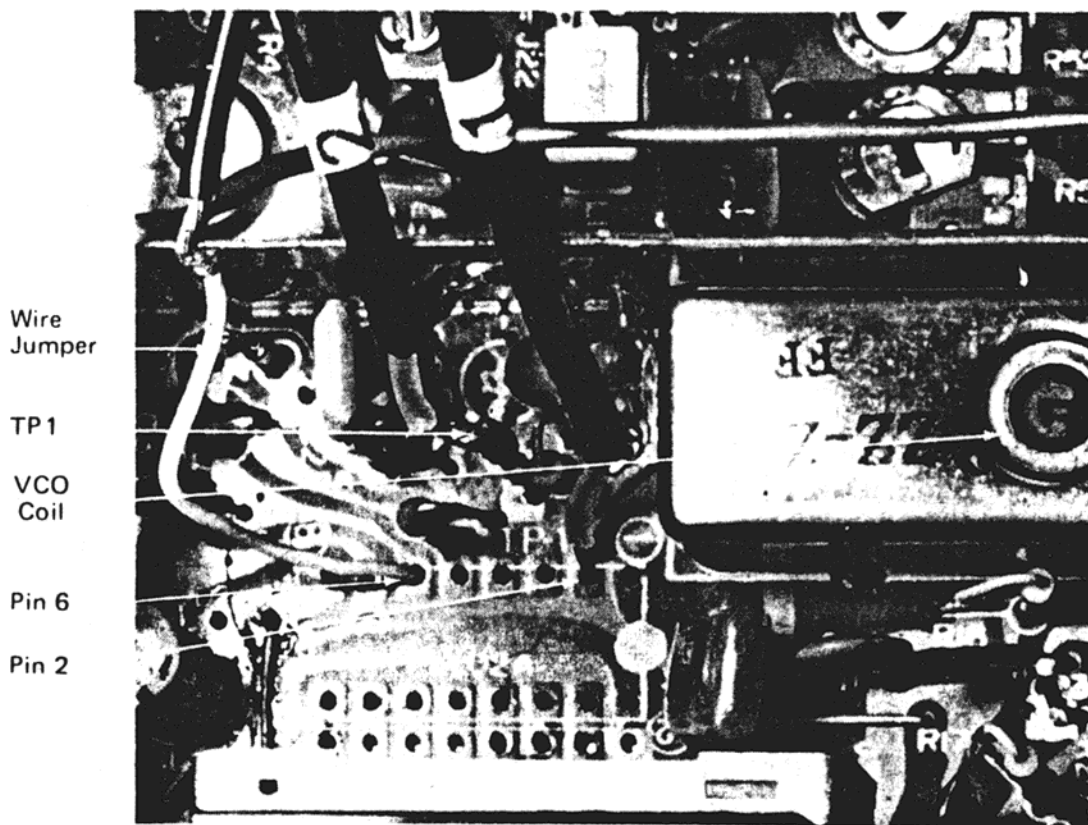

FIG. 3 — LOCATION OF TEST POINTS (PLL 02A)
2. Locate and identify the PLL 02A Chip—normally close to the channel selector of the transceiver (*see Fig. 3*).
4. Locate where pin 2 of the PLL 02A chip was connected (*see Fig. 3*) and connect the center of coax #1 to this point.
6. Connect the ground shield of both coax cables to ground. (Example: see *Fig. 3*). **Caution:** avoid excessive heat.
7. Locate where pin 6 of the PLL 02A was connected (see *Fig. 3*).